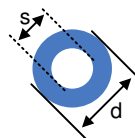

Figure 8-2. Thermal Pad Layout Recommendation
- The thermal pad should be tied to the PCB ground plane with a minimum of 25 vias. See Figure 8-2 for an example.